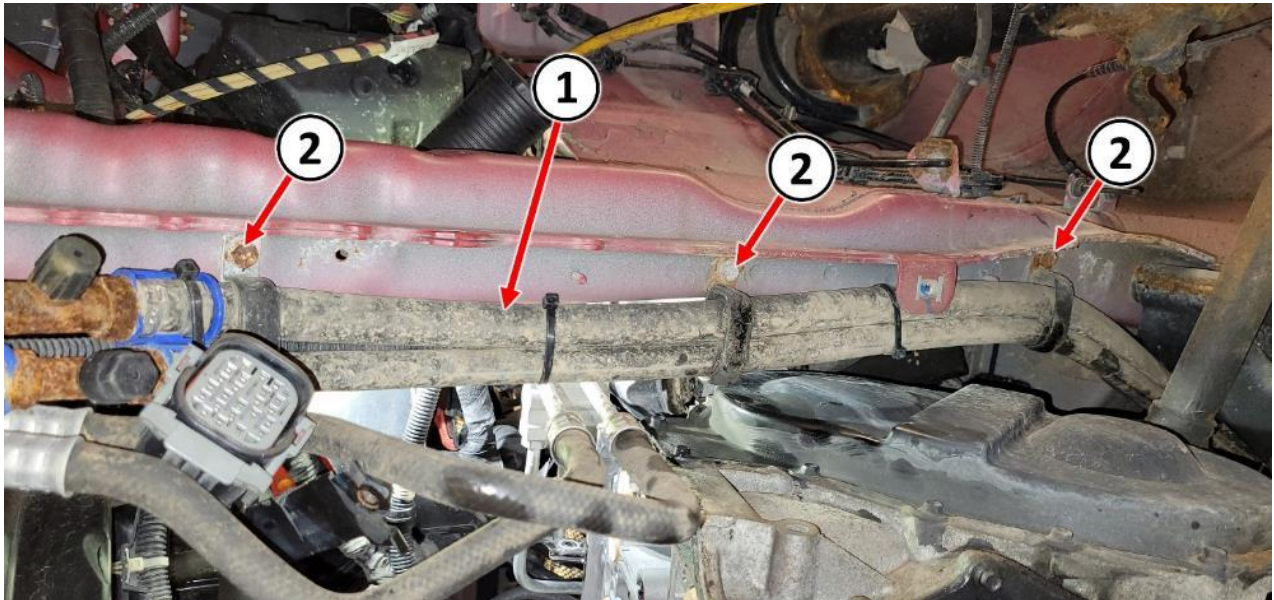

Figure 17 – Rear HVAC Refrigerant Hoses
27. If the vehicle is equipped with rear air conditioning, remove the screws (2) securing the refrigerant hoses (1) to the frame rail. Then position the hoses (1) aside for transfer gear cover access (Figure 17).